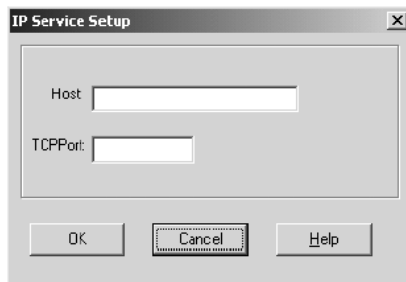

Figure 24: IP Service Setup Dialog Box
3. Click the **Add IP** button. The IP Service Setup dialog box appears (see Figure 24).